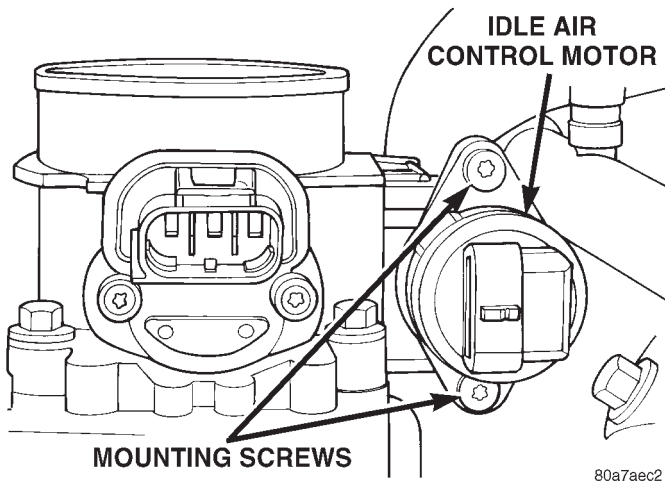

Fig. 72 Mounting Bolts (Screws)—IAC Motor—4.0L Engine
- (1) Remove air cleaner tube at throttle body.
- (2) Disconnect electrical connector from IAC motor.
- (3) Remove two mounting bolts (screws) (Fig. 72).
- (4) Remove IAC motor from throttle body.